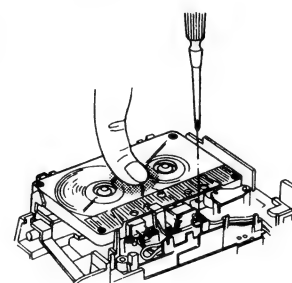

Fig. 7
- If you wish to readjust the head azimuth, be sure to adjust with adhering the cassette tape closely to the mechanism by pushing the center of cassette tape with your finger. (Shown in Fig. 7.)